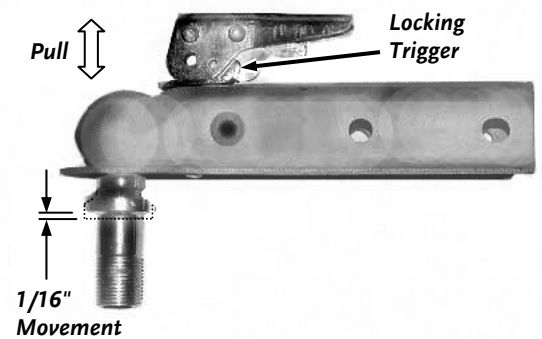

Figure 44
30. Place a 2" ball in the socket of the coupler and close the latch assembly (**Figure 44**). Verify that the locking trigger is properly engaged in its detent.